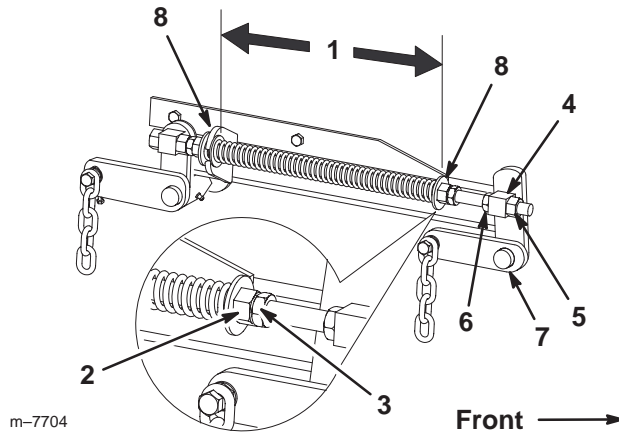

Figure 54
7. Loosen the front swivel jam nuts, at the front of the right and left swivels, approximately 1/2 inch (13 mm) (Fig. 54).
8. Adjust the lift nuts on both the left and the right side of the machine to achieve **1/4 to 3/8 inch (6 to 10 mm) lower in front at A than in the rear at B** (Fig. 54).
1. Raise the mower lift lever to the transport position (Fig. 54).
2. Check the distance between the 2 large washers; it must be 10-1/4 inches (26.7 cm) (Fig. 54).
3. Adjust this distance by loosening the spring jam nut and turning the nut in front of each spring (Fig. 54).
4. Lock the nut into position by tightening the spring jam nut (Fig. 54).